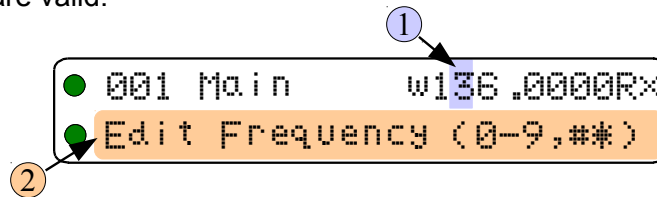

Figure 2-1. The user screen to edit the Main frequency
Example: The edit frequency command, figure 2-1 shows the edit frequency screen if the active memory is 001 on Main. Note that a cursor flashes on the second character in the frequency field ①, on the Main display (top row) and that the Guard Display (bottom row) has been changed to a prompt line ②. This prompt tells the user what command is running, and what keys are valid.